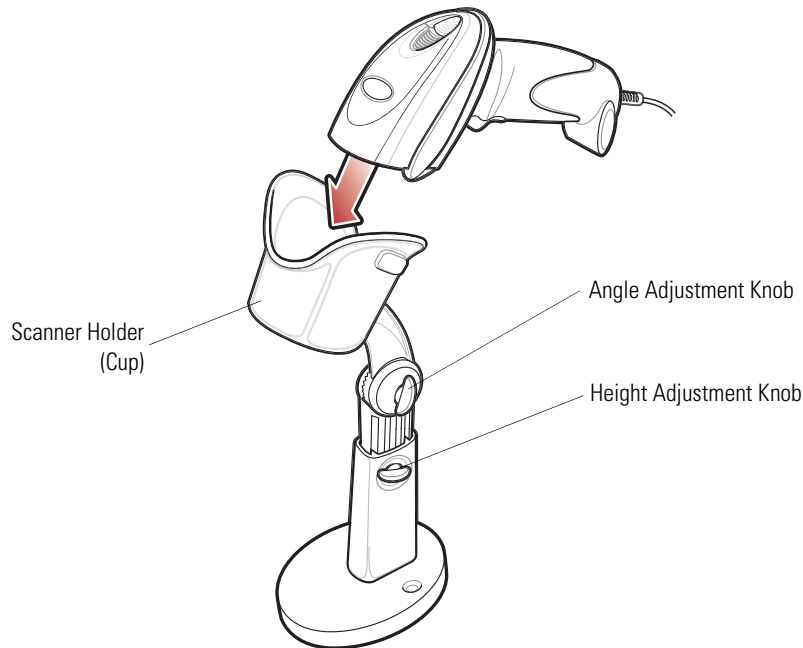

Figure 2-6. Inserting the Digital Scanner in the Intellistand
2. Insert the digital scanner in the Intellistand by placing the front of the digital scanner into the stand's "cup" (see Figure 2-6).